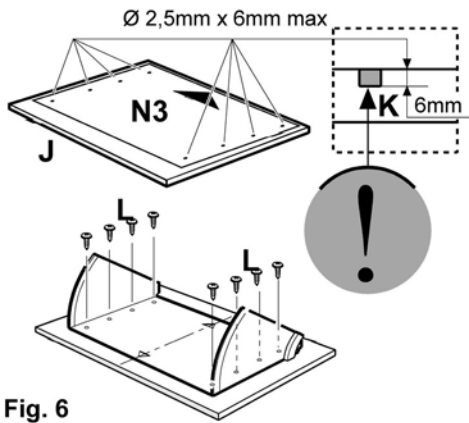

Fig. 6
- Put perforation diagram N3 on the REAR of aesthetic panel J (the arrow on the diagram turned upward towards the UPPER EDGE of the aesthetic panel). Fig. 6
- Make BLIND HOLES K as indicated. Fig. 6
- Put the steam collector over the aesthetic panel and fix it with 8 screws L. Fig. 6
- Remount the door on the hood, first on upper guides M1, then on the lower M2. Fig. 6